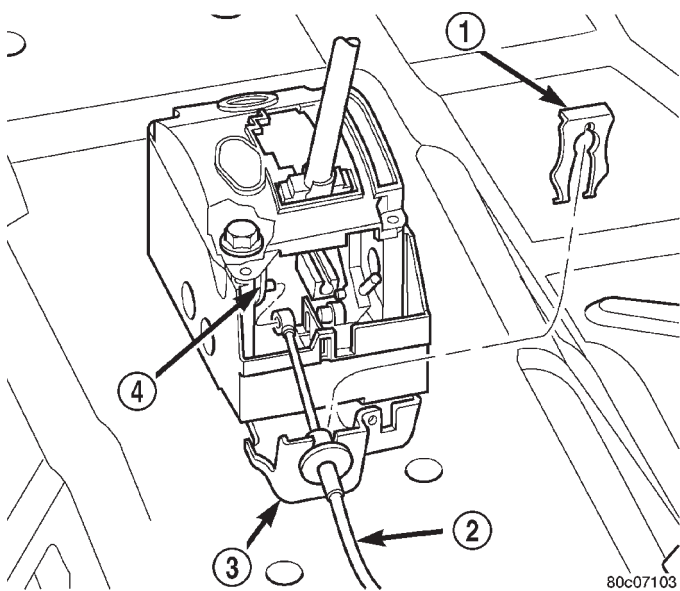

Fig. 54 Floor Gearshift Cable Removal/Installation
- (5) Remove retaining clip from shift cable conduit bracket (Fig. 54).
- (6) Disconnect shifter cable from cable attach stud (pin) (Fig. 54).
- (7) Remove cable from center console routing. Leave flat on floor for ease of removal.
(10) Route cable through hole in shifter conduit bracket and attach to cable attaching shift pin by snapping into place (Fig. 54).
(11) Install a new clip onto the cable at the shifter bracket (Fig. 54).